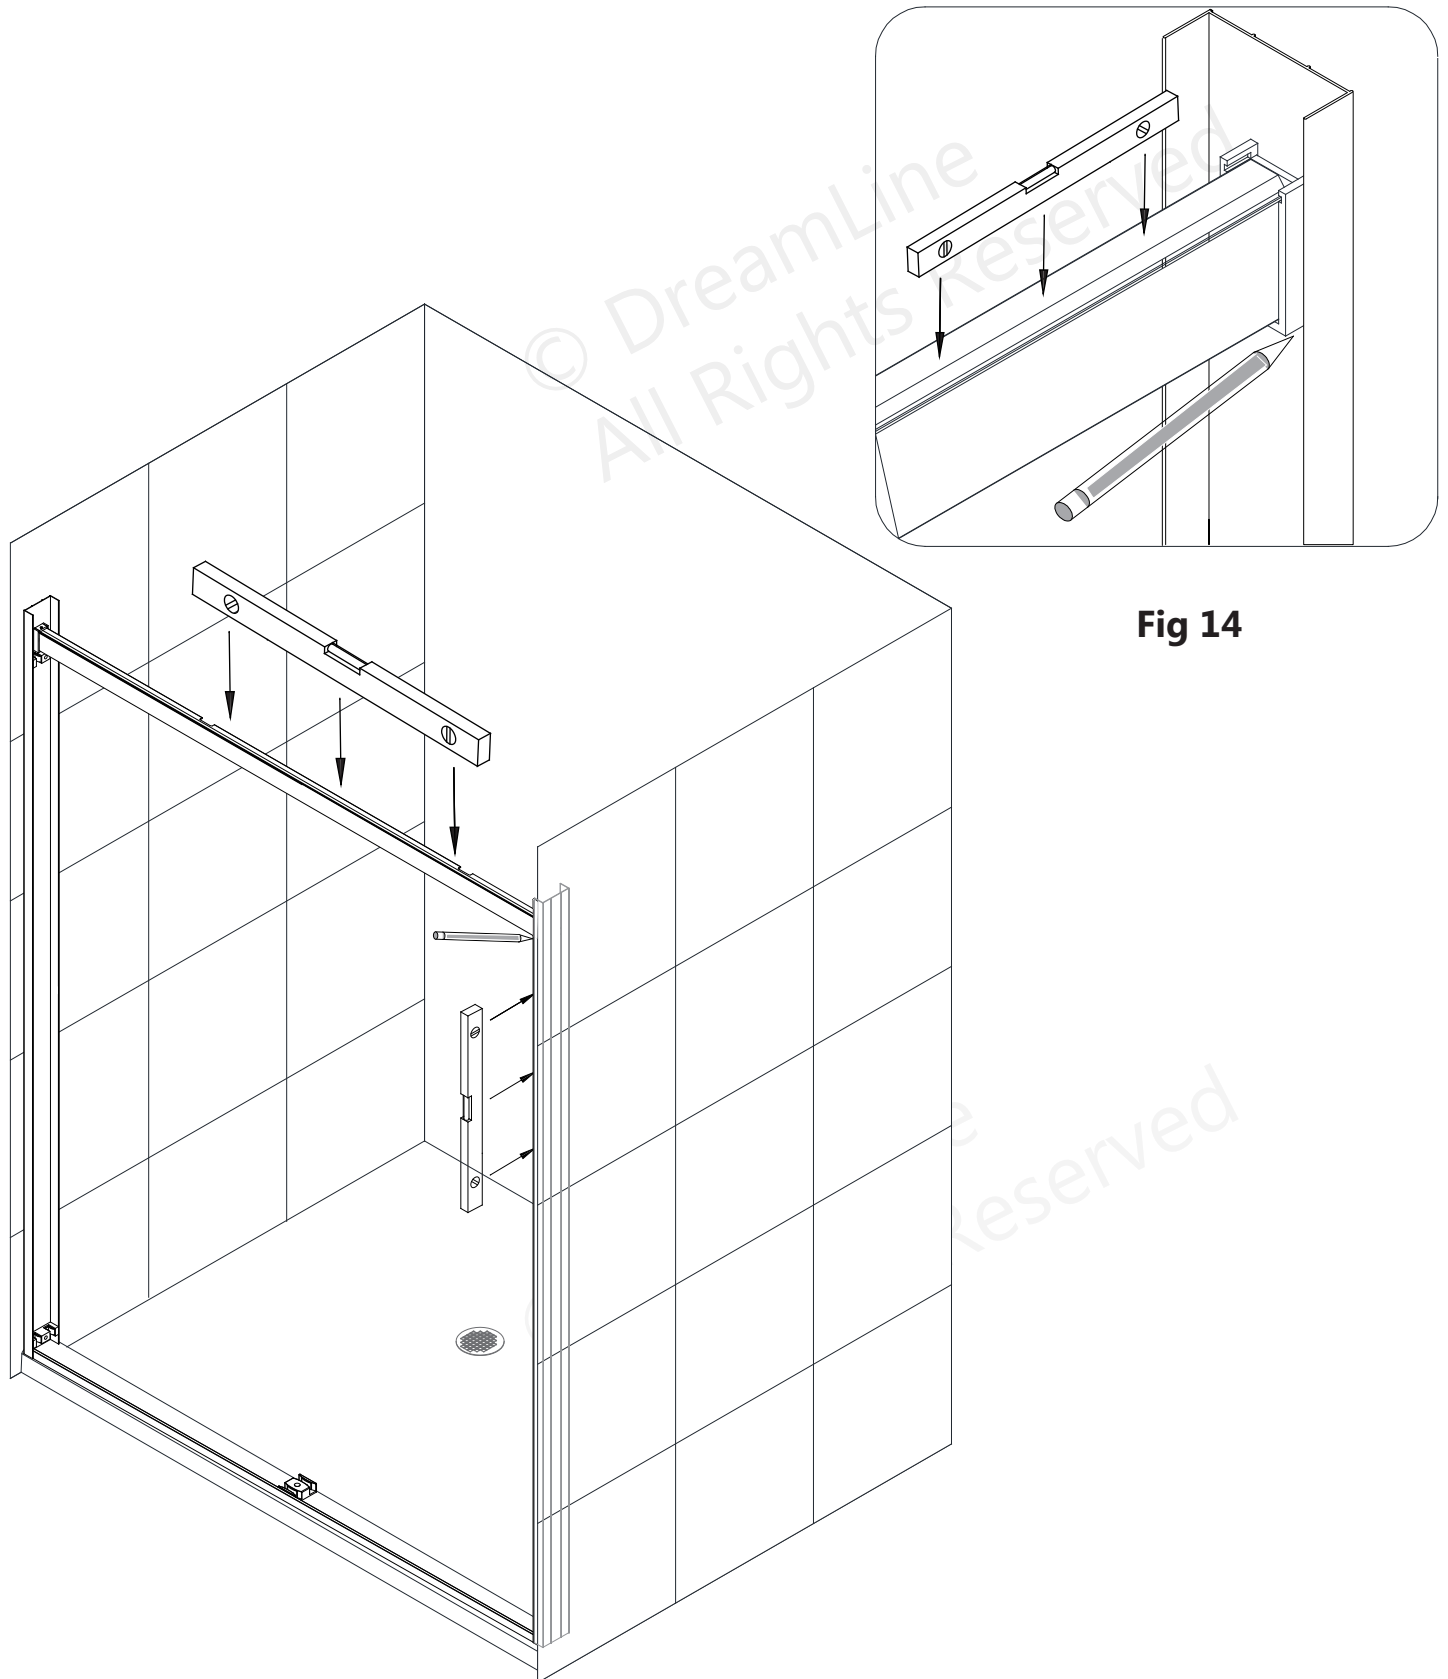

Fig 14
14. Place a level on top of the **Upper Guide Rail (#01)**. When the **Upper Guide Rail (#01)** is level, mark the position of the **Guide Rail Bracket Assembly (#02)** on the **Wall Profile (#19)**. (**Fig 14**)